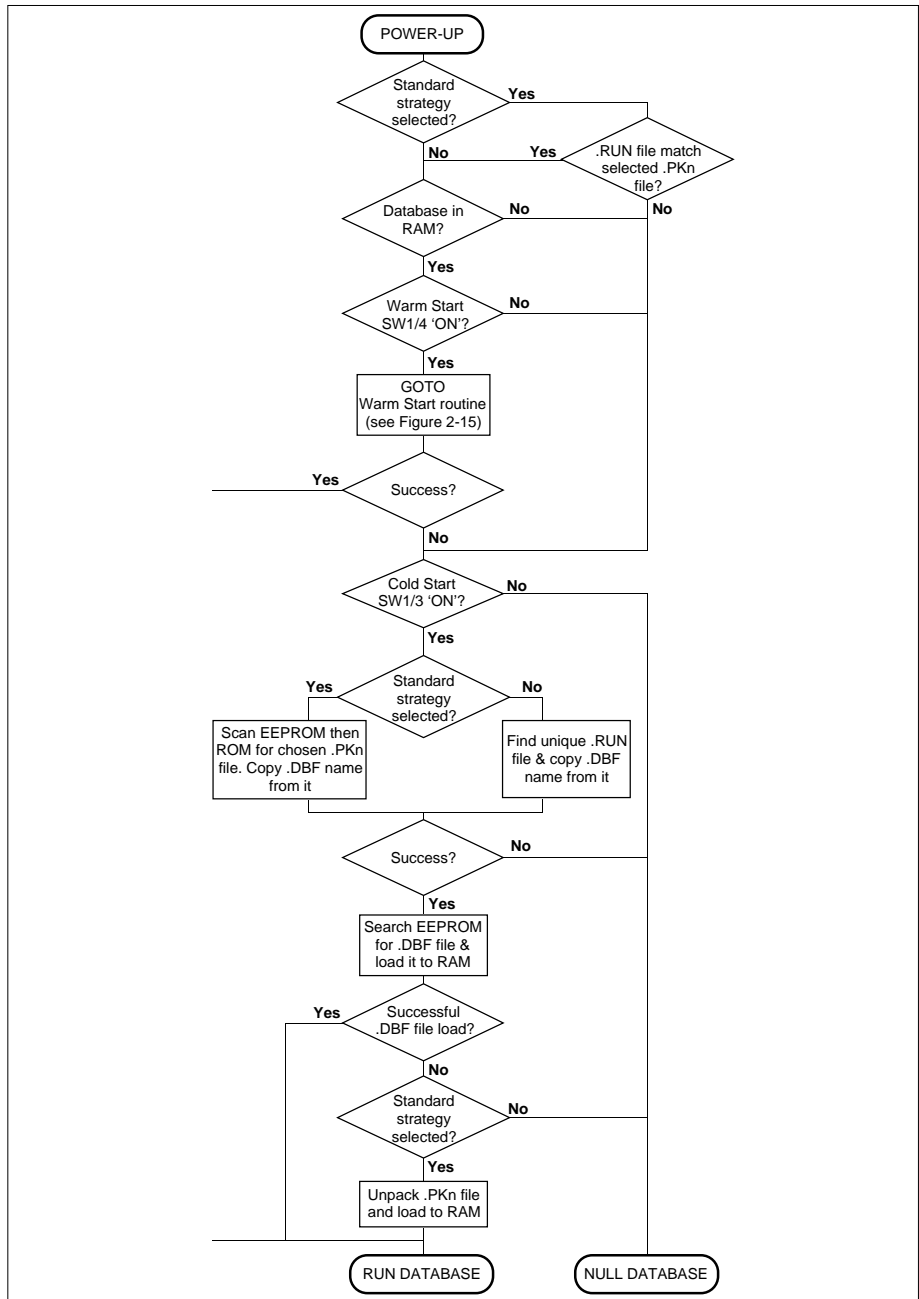
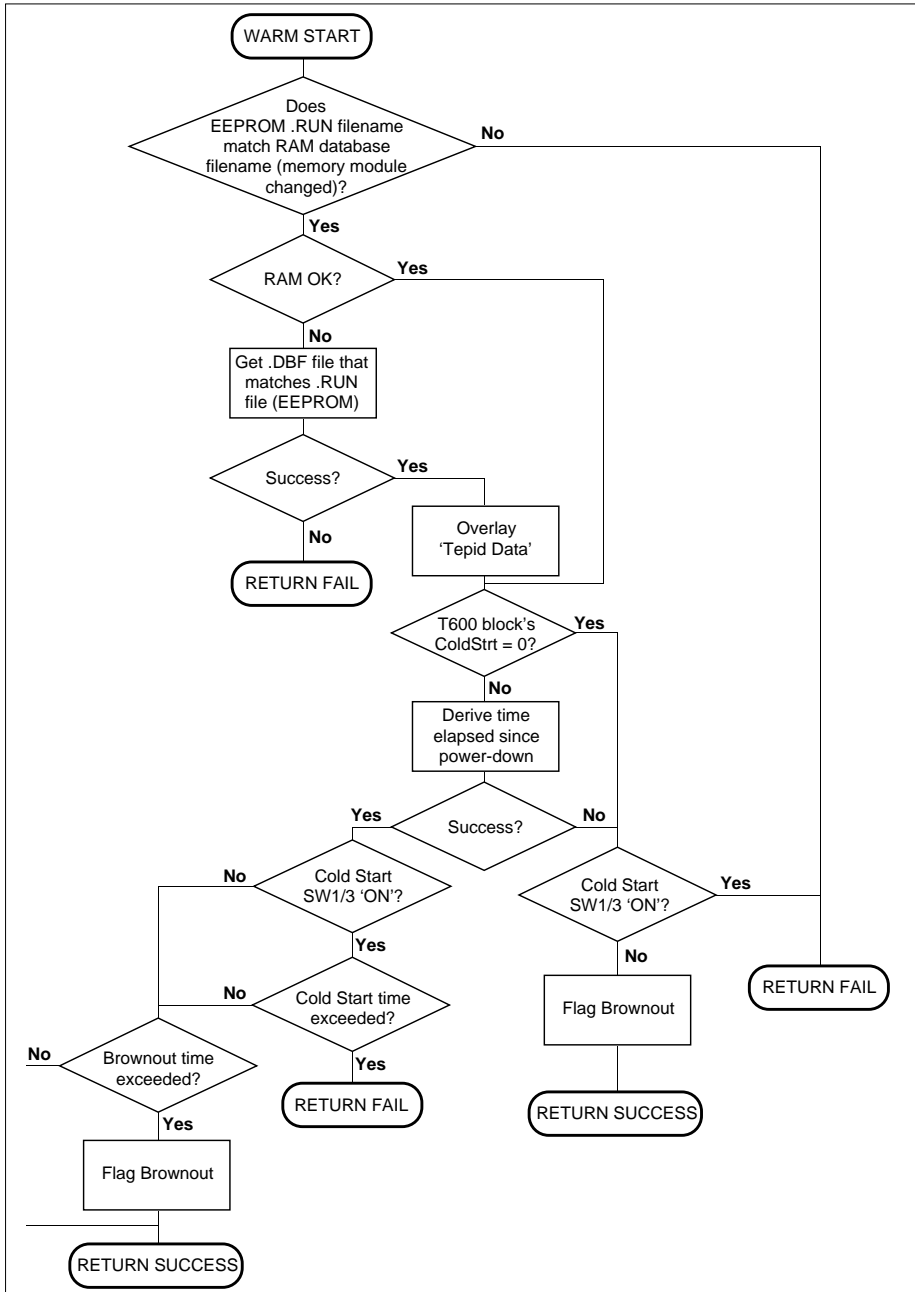

Figure 2-14 T640 power-up routine
Figure 2-15 T640 warm start routine (& see Figure 2-14)
Figure 2-14 charts the events that occur when T640 is powered up. Figure 2-15 shows the warm start routine that may be called during power-up, and should be read in conjunction with Figure 2-14. As there is no hardware realtime clock in the T640, it must derive elapsed time since power-down (needed in the warm start routine) from a clock it maintains over the peer-to-peer communications. If this is not possible, power-up follows the alternative route shown in Figure 2-15. After loading, the entire database is subjected to a sumcheck test.
At the end of each task iteration a package of data is assembled in a .TPD file in RAM, ready to be written to EEPROM should a power-down occur. This data — ‘tepid data’ — includes each loop’s local setpoint (SL), output (OP), and operating mode (MODE). In the event of a power-down, there is enough time for the tepid data in the .TPD file to be transferred rapidly to EEPROM, ready to be used if required during a subsequent warm start routine (see Figure 2-15).
DIL switchbank SW1, switches 3 and 4, determine how T640 starts up after a power interruption — as charted in Figures 2-14 and 2-15. For normal T640 operation both switches should be ‘ON’ to provide full warm start and cold start capability.